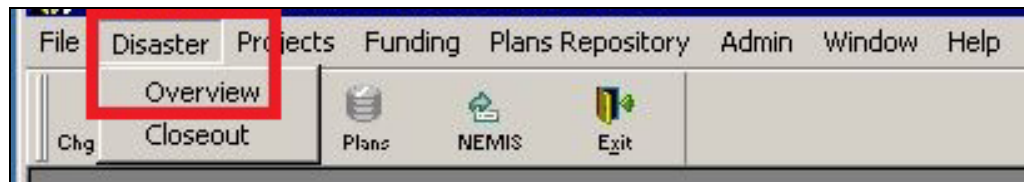

Figure 3-18: Mitigation > Disaster > Overview
3. The Mitigation menu is displayed. From the top menu, select Disaster, then Overview (Figure 3-18).